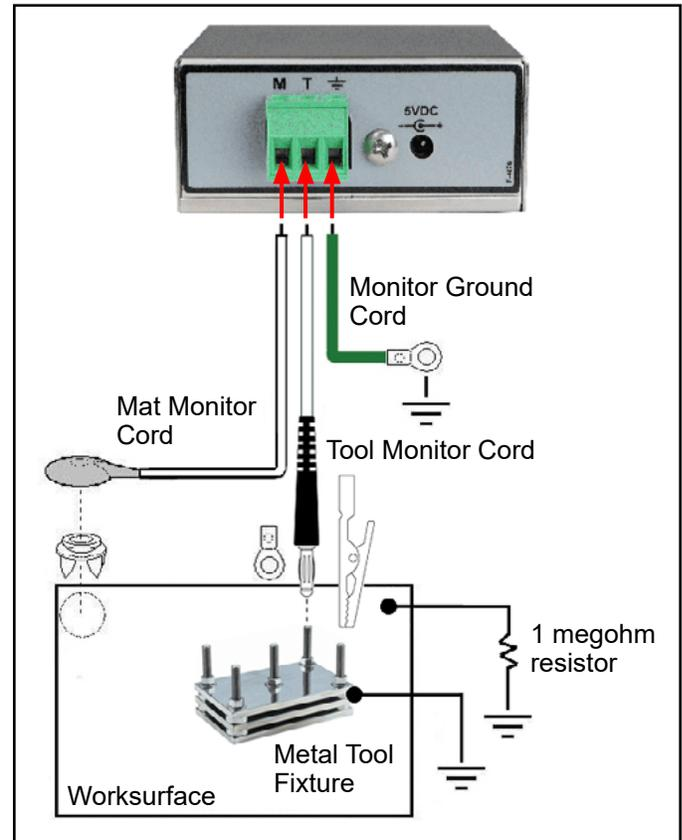
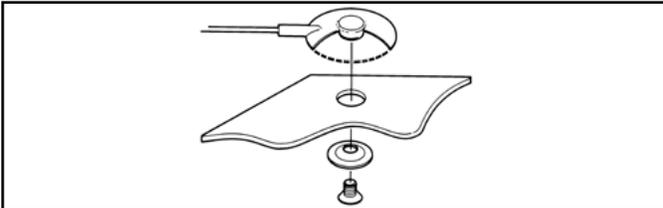

Figure 3. Installing the Body Voltage Monitor
Figure 5. Screw allows ground cord to be bolted to mat to keep cord from disconnecting
4. Route the mat monitor cord from the back of the monitor to the worksurface mat. Use either the included push and clinch snap or washer and screw to secure the cord to the mat (see Figure 5). The worksurface mat requires its ground cord to have an embedded 1 megohm resistor such as the RS 798-9335 (see Figure 3).